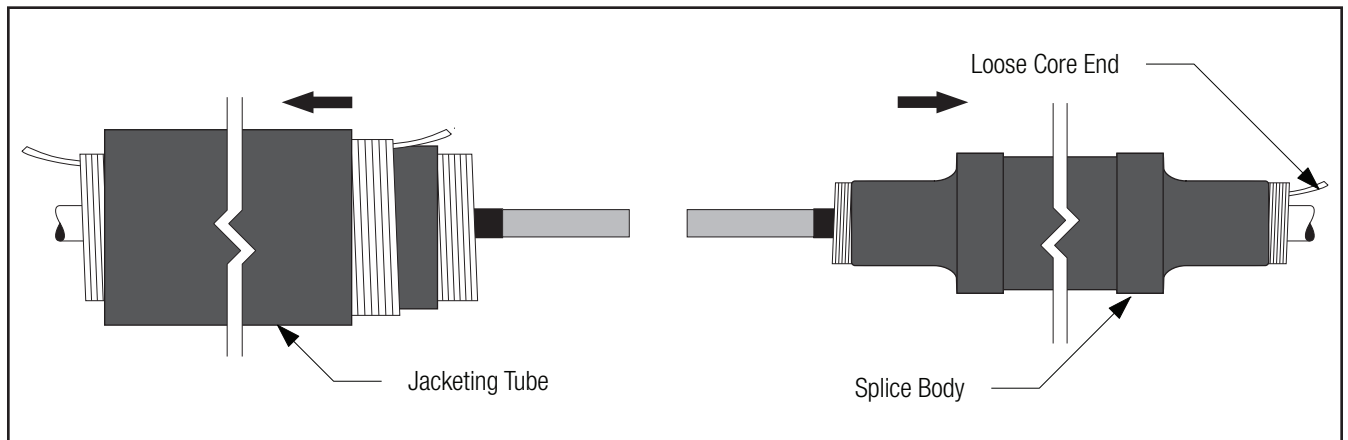

Figure 7
2.5 Clean or cover cable jacket if necessary, for cold shrink parking position. Slide jacketing tube onto one cable end. Slide splice body onto opposite cable, loose core end first. For size transitions, park splice on smaller cable (Figure 7).